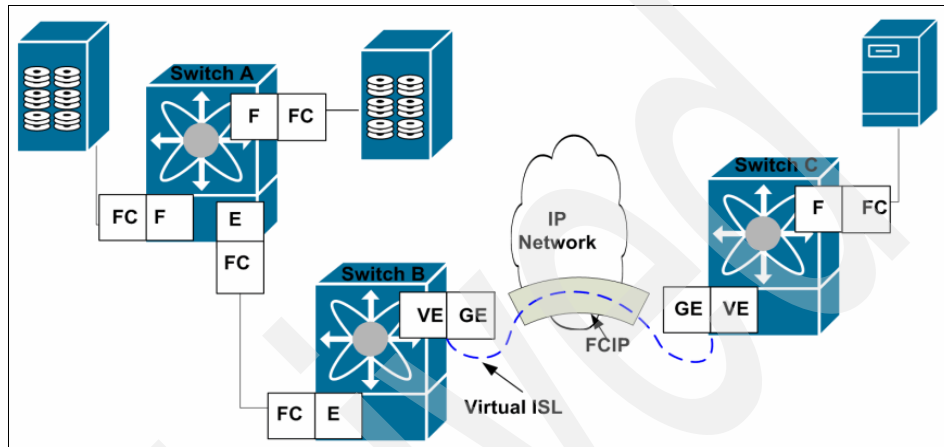

Figure 7-4 FCIP Links and Virtual ISLs
FCIP defines virtual E (VE) ports, which behave exactly like standard Fibre Channel E_Ports, except that the transport in this case is FCIP instead of Fibre Channel. The only requirement is for the other end of the VE_Port to be another VE_Port. A virtual ISL is established over an FCIP link and transports Fibre Channel traffic. Each associated virtual ISL looks like a Fibre Channel ISL with either an E_Port or a TE_Port at each end, as shown in Figure 7-4.